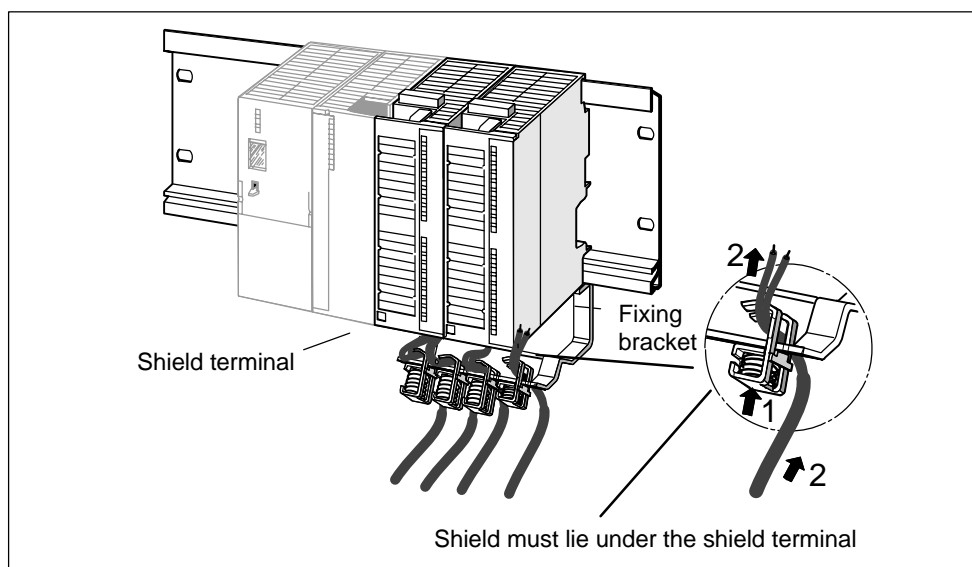

Figure 5-8 Attaching shielded 2-wire cables to a shield contact element
3. A slotted web is arranged at the bottom side of the terminal element. Place the shield terminal at this position onto the edge of the fixing bracket (see Figure 5-8). Press the shield terminals down and swing them into the desired position.
You can only attach one or two shielded cables per shield terminal (see Figure 5-8 and Table 5-6). The cable is connected by its bare cable shield. There must be at least 20 mm of bare cable shield. If you need more than 4 shield terminals, start wiring at the rear row of the shield contact element.